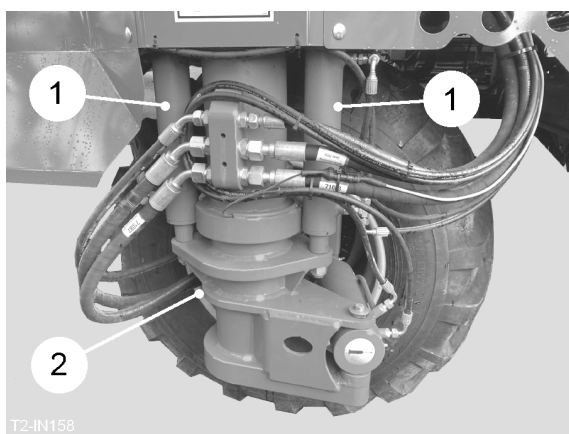

Fig 21
The 'Machine Level' button on the slave box and touch-screen operate the twin levelling rams (item 1, fig. 21) fitted to each wheel leg. Optional automatic levelling can also be fitted to maintain side-to-side 'horizon' level when operating on undulating ground. The automatic levelling is activated by the button  on the touch-screen.
The powered axle provides additional traction during work. The powered axle transfers power from the tractor PTO to hydraulically drive the harvester wheels up to a maximum speed of 5.5 kmh (3.5 mph). This is achieved by means of a load sensing, pressure compensated, variable displacement pump, which provides the hydraulic oil flow to drive the wheel motors (item 2, fig. 21).